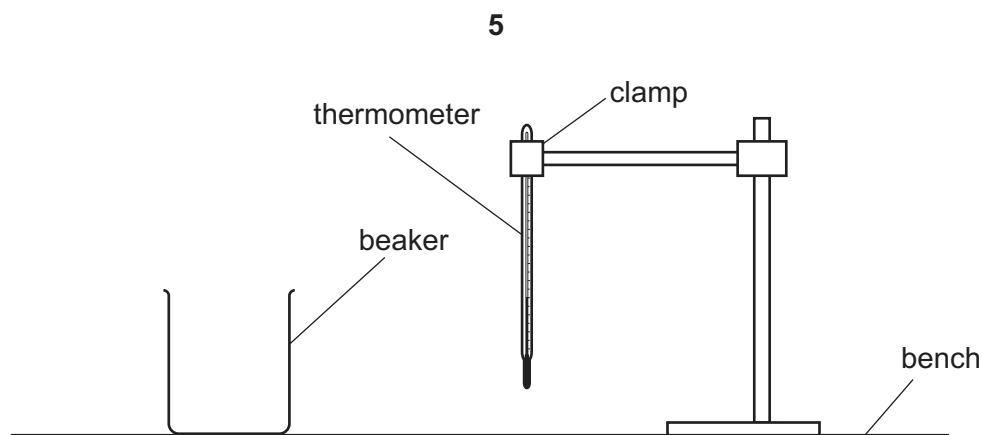

Fig. 2.1
2. The thermometer, clamp, boss and stand are to be set up for candidates as shown in Fig. 2.1. The thermometer bulb must be well below the 75 cm^3 level of the beaker. Candidates must be able easily and safely to read temperatures up to 100°C and to move the thermometer into and out of the beaker.
Check that the apparatus is intact and is arranged as in Fig. 2.1.